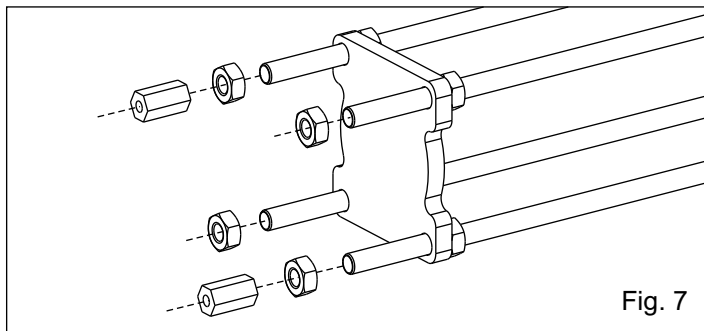

Fig. 7
7. Insert the small pierced plate in the tie rods, after that screw 2 of the 4 previously removed nuts in correspondence with the 2 clamp screws of the stem cover (Fig. 7).